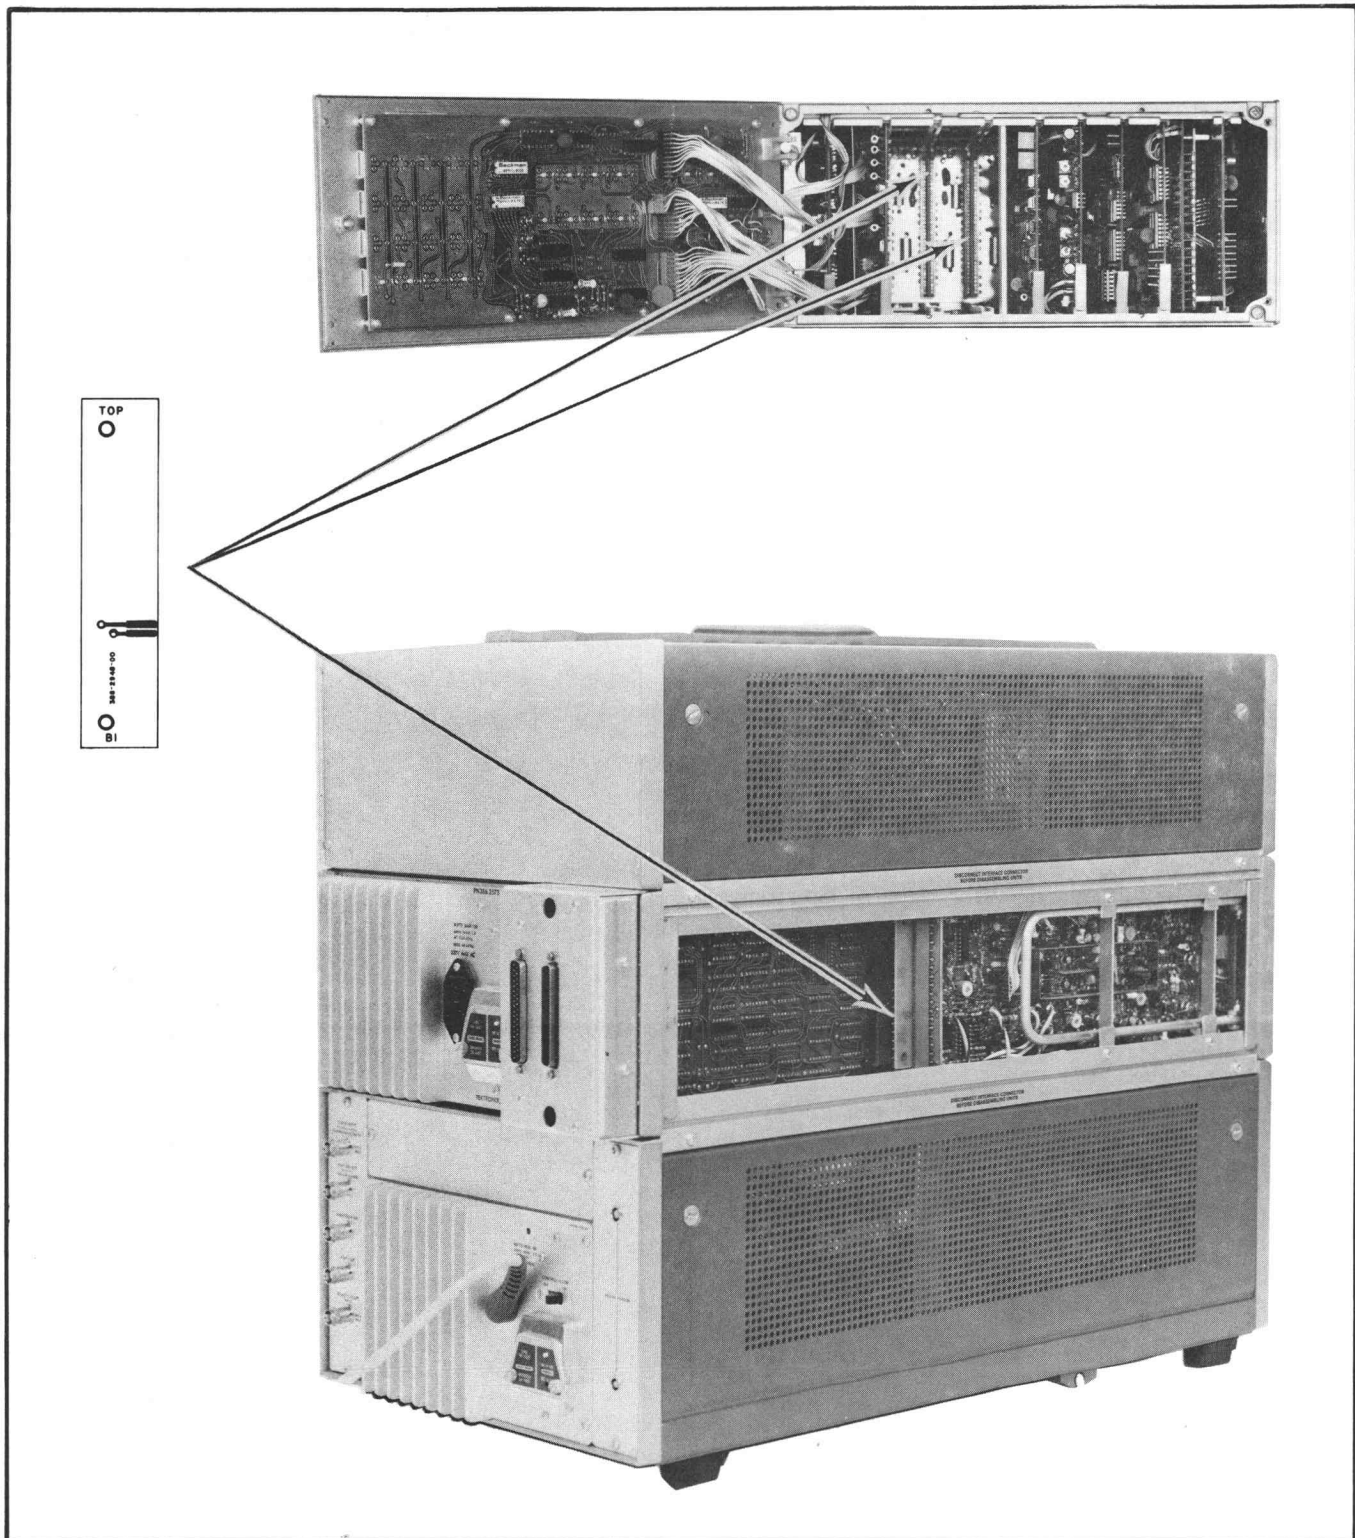

Fig. 2-1. Data Channel Grant Continuity Card.
5. There are two empty card slots on the bus located inside the front panel. Each empty slot should have a "Data Channel Grant Continuity" card plugged into the front of the Main Interface bus at the rear of the P7001. Make sure the Channel Grant Continuity card is right side up, with "top" upward. These cards must also be firmly seated for correct operation (see Fig. 2-1).
into the rear of the Main Interface Bus at J11 (see Fig. 2-1). Reseat this card also, making sure that the card is right side up, with "top" upward. Replace the panel cover.